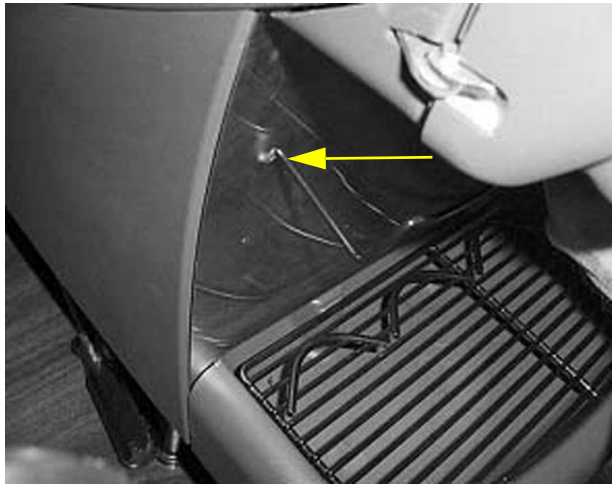

Figure 1.
1. Insert the top of the Cup Locator (part number 720701802 QST 4000; part number 720701801 QST 2000) into each hole in the Splash Panel as Shown (Figure 1.)